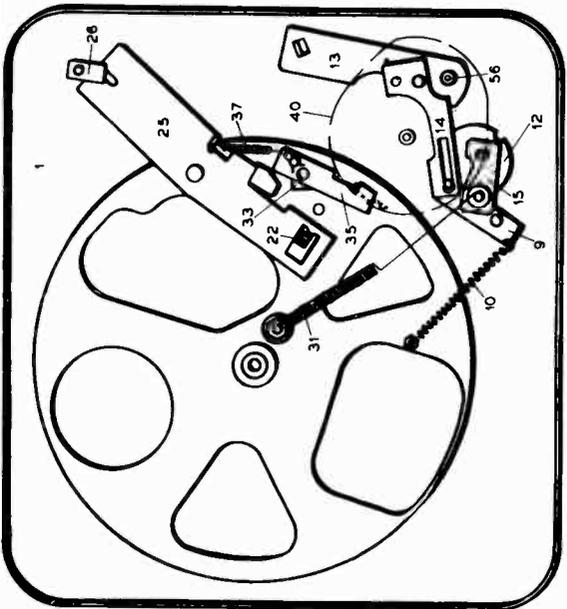

FIG. 1
If Figs. 1 through 5, the drive wheel (41) and main cam (40) have been omitted for sake of clarity and to show operation of otherwise hidden parts. The main cam, however, has been shown in these drawings as a dotted line to illustrate its position.
Only those parts are labeled in Figs. 1 - 5B which are operative or referred to in that particular phase of cycle. Figs. 1, 1A, and 1B illustrate the parts of the Record Changer in the OFF or normal position.